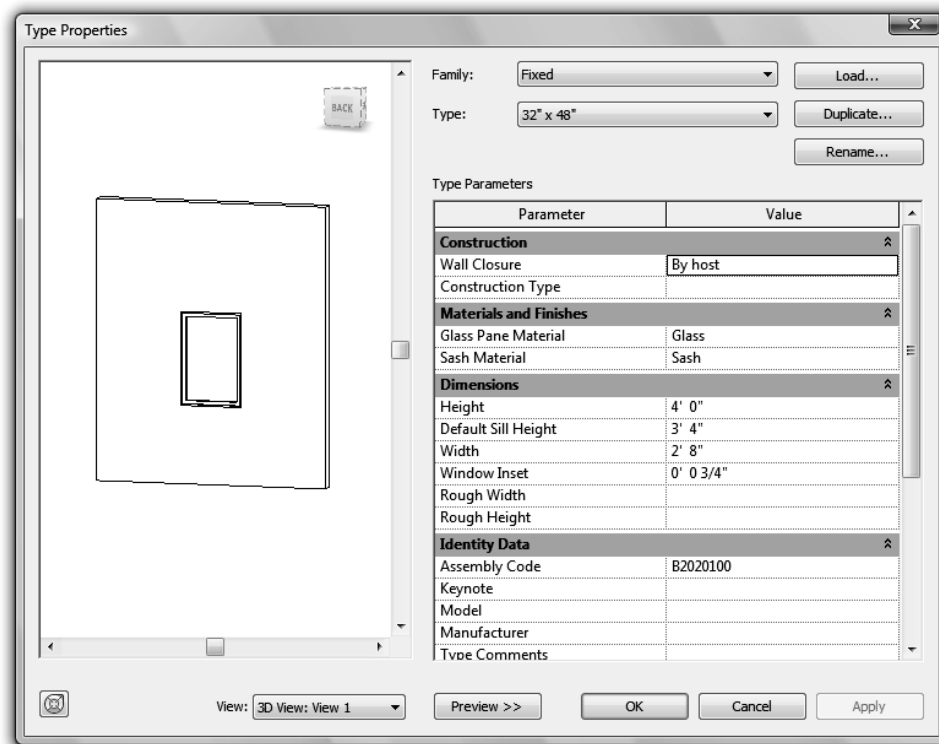

FIGURE 3-5.8 Added window size
15. Adjust the sill height for your new window size to fit within coursing as well. Set the sill height for *Fixed: 32" x 48"* to be *3'-4"* (Figure 3-5.8).